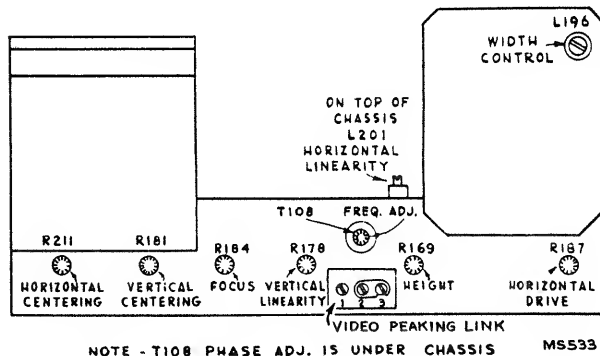

Figure 6—Rear Chassis Adjustments
**FOCUS COIL ADJUSTMENTS**—Turn the centering controls R181 and R211 to mid position. See Figure 6 for location of these rear apron controls.
possible without causing crowding of the right of the picture. This position provides maximum high voltage to the kinescope second anode. Adjust the width control (L196 on rear chassis) until the picture just fills the mask horizontally (8 $\frac{1}{2}$  inches). Adjust the horizontal linearity control L201 (see Figure 6) until the test pattern is symmetrical left to right. A slight readjustment of the horizontal drive control may be necessary when the linearity control is used. Adjust horizontal centering to align the picture with the mask.
**VIDEO PEAKING LINK**—A video peaking link is provided (see Figure 6) to permit changing the video response. If the pictures from the majority of stations look better with the link closed, (2-3 position) then the link should be placed in that position. However, if transients are produced on high contrast pictures then the link should be left open (1-2 position).